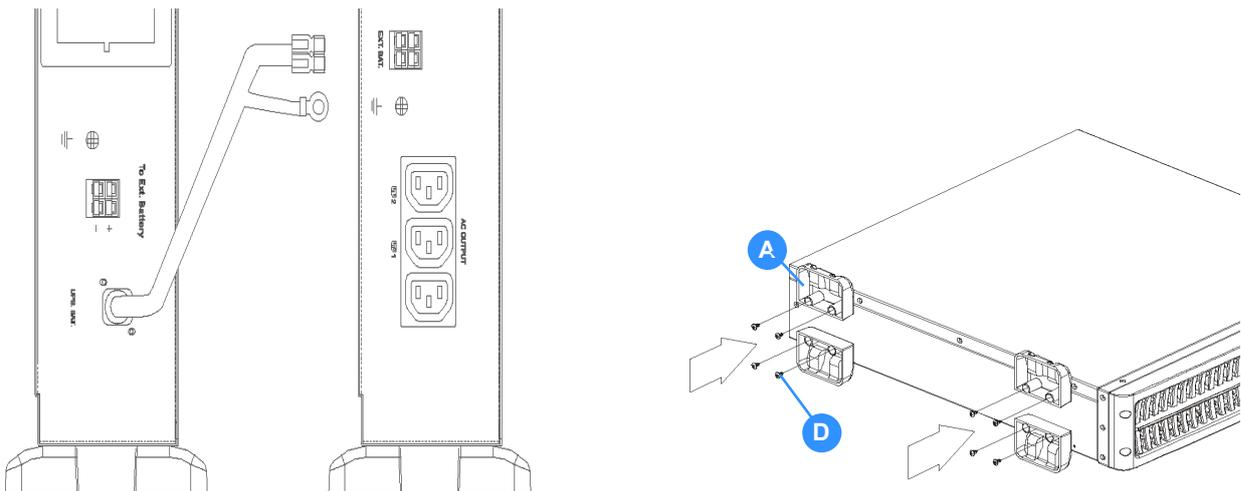

Figure 3.10 Battery cabinet tower assembly
2. Lay the battery cabinet on its side and attach the feet to its outer edge only Figure 3.10.
3. With the battery cabinet still on its side (with the feet pointing downwards), carefully place the UPS cabinet on top of the battery cabinet and fit the two attachment links using the supplied dome-headed screws (D). Ensure that the front of the cabinets are correctly aligned before you fully tighten the screws.